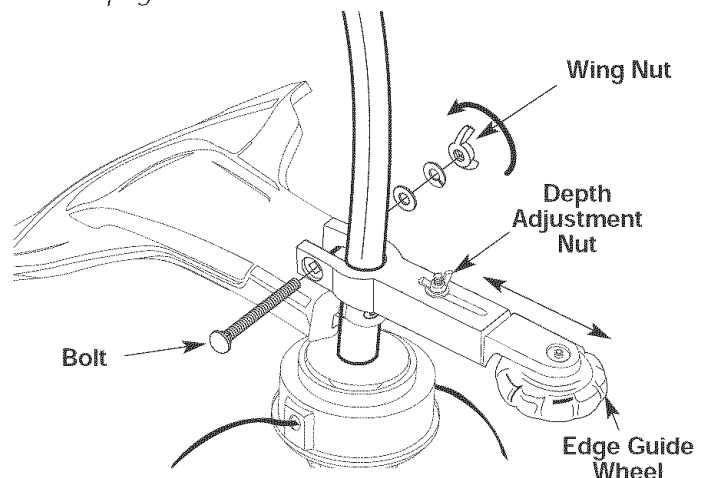

Fig. 5
1. Push edge guide wheel onto the shaft just above the cutting attachment shield (Fig. 5). Some force may be required. The depth adjustment nut must be on top.
3. Adjust the edging depth by loosening the depth adjustment nut. Then move the guide wheel along the path shown by the arrows (Fig. 5) until the wheel reaches the desired position and then tighten securely.